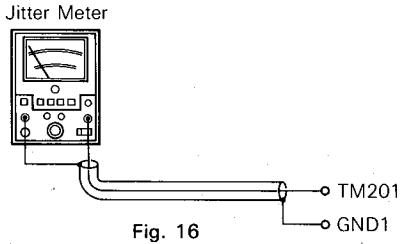

Fig. 16
- (1) Connect the jitter meter to TM201 and GND1. (fig. 16)
- (2) Insert Philips test disc #5 and place unit in play mode on track number 9.
- (3) Confirm the jitter meter reading does not exceed 35ns.
- (4) If 35ns is exceeded, remove the disc tray. (Refer to step 2 on page 8.)
- (5) Place Philips test disc #5 on the spindle motor.
- (6) Put unit into play mode on track number 9.
- (2) Insert the disc and place the unit in the play mode.
- (3) Adjust VR101 until the jitter becomes minimum.